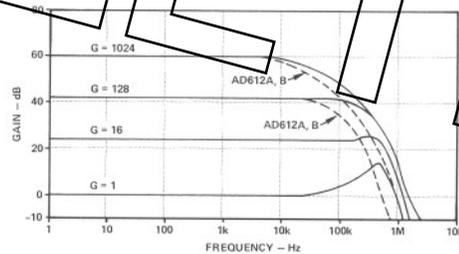

Figure 15. Small Signal Frequency Response
**Bandwidth and Settling Time:** Bandwidth (-3dB) is relatively constant with gain (see Figure 15 below) and is typically 100kHz at gain 1. At 4V/V and below, gain starts peaking at about 20kHz. Full power response and slew rate are 16kHz and 1V/ $\mu$ s (typ) respectively, independent of gain.